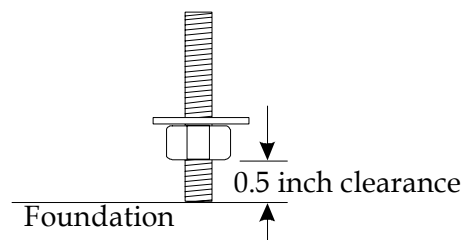
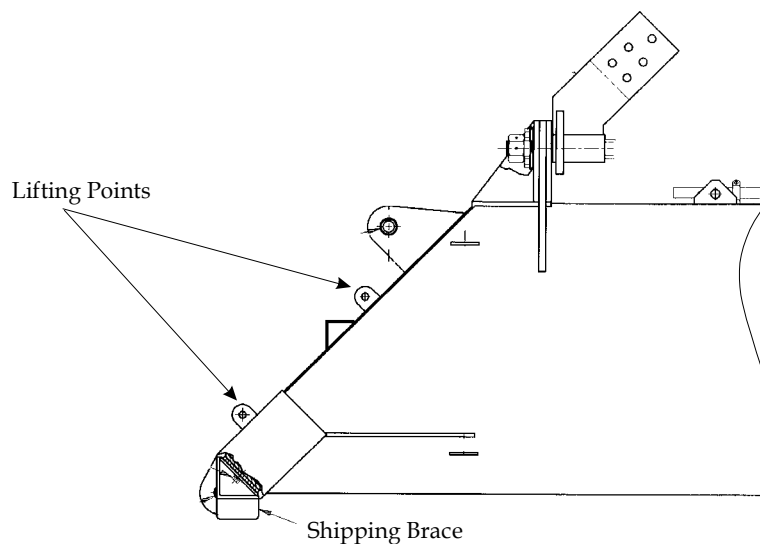

Figure 2-2 Installing Leveling Nuts
Figure 2-4 Rigging Lifting Points
2. Locate (Qty 18) 1.0 inch galvanize washers (item 24) and (Qty 18) 1-8 UNC galvanized nuts (item 25). Install one nut on each anchor bolt at approximately 0.5 inch above the foundation surface. The 0.5 inch clearance will be required for leveling the mount. Place one washer on top of each nut as shown in Figure 2-2.
2. Refer to sheet 2 of drawing 517098. Locate (Qty 20) 1.25 inch galvanize washers (item 218) and (Qty 18) 1.25-7 UNC galvanized nuts (item 219). Install one nut on each anchor bolt at approximately 0.5 inch above the foundation surface. The 0.5 inch clearance will be required for leveling the mount. Place one washer on top of each nut in Figure 2-2 on page 2-21.
3. Refer to sheet 5 of drawing 517098. Secure a nylon strap to the azimuth actuator assembly (item 17). Lift the assembly with a crane and position over foundation anchor bolts. Locate (Qty 6) 1.25 inch galvanized washers (item 218) and (Qty 6) 1.25-7 UNC nuts (item 219). Loosely install nuts and washers on anchor bolts and remove the nylon strap.
4. Refer to sheet 2 of drawing 517098. Locate (Qty 8) 1.25 inch galvanized washers (item 218) and (Qty 8) 1.25-7 UNC (item 219). Secure a nylon strap to each leg (item 2) at approximately the center. Lift each leg with a crane and position over foundation anchor bolts. Loosely install four nuts and
2. Refer to sheet 2 of drawing 517097. Locate (Qty 20) 1.25 inch galvanize washers (item 218) and (Qty 18) 1.25-7 UNC galvanized nuts (item 219). Install one nut on each anchor bolt at approximately 0.5 inch above the foundation surface. The 0.5 inch clearance will be required for leveling the mount. Place one washer on top of each nut as shown in Figure 2-2 on page 2-21.
3. Refer to sheet 5 of drawing 517097. Secure a nylon strap to the azimuth actuator assembly (item 17). Lift the assembly with a crane and position over foundation anchor bolts. Locate (Qty 6) 1.25 inch galvanized washers (item 218) and (Qty 6) 1.25-7 UNC nuts (item 219). Loosely install nuts and washers on anchor bolts and remove the nylon strap.
4. Refer to sheet 2 of drawing 517097. Locate (Qty 8) 1.25 inch galvanized washers (item 218) and (Qty 8) 1.25-7 UNC (item 219). Secure a nylon strap to each leg (item 2) at approximately the center. Lift each leg with a crane and position over foundation anchor bolts. Loosely install four nuts and washers to secure each leg on anchor bolts. Disconnect crane and remove the nylon straps.
5. Secure a nylon strap to the elevation actuator assembly (item 18). Remove the cotter pins (item 16), clevis pin (item 21), spacers (item 22) and washers (item 205) from assembly.
6. Lift the assembly with a crane and position the jack clevis over attachment point on mount (item 1) as shown on sheet 6 of Drawing 517097. Reassemble pivot pin (item 21) through the clevis, with spacers (item 22) and washers (item 205) and cotter pins (item 16).
8. Locate the ladder and platform parts and loosely attach to mount (item 1) as shown on sheets 3 and 4 of drawing 517097. When ladder and platform are attached tighten all 3/8-inch hardware on ladder and platform to 20 ft-lb (26 Nm).
10. Secure a steel cable to the mount lifting points (identified by Figure 2-4) using two shackles.